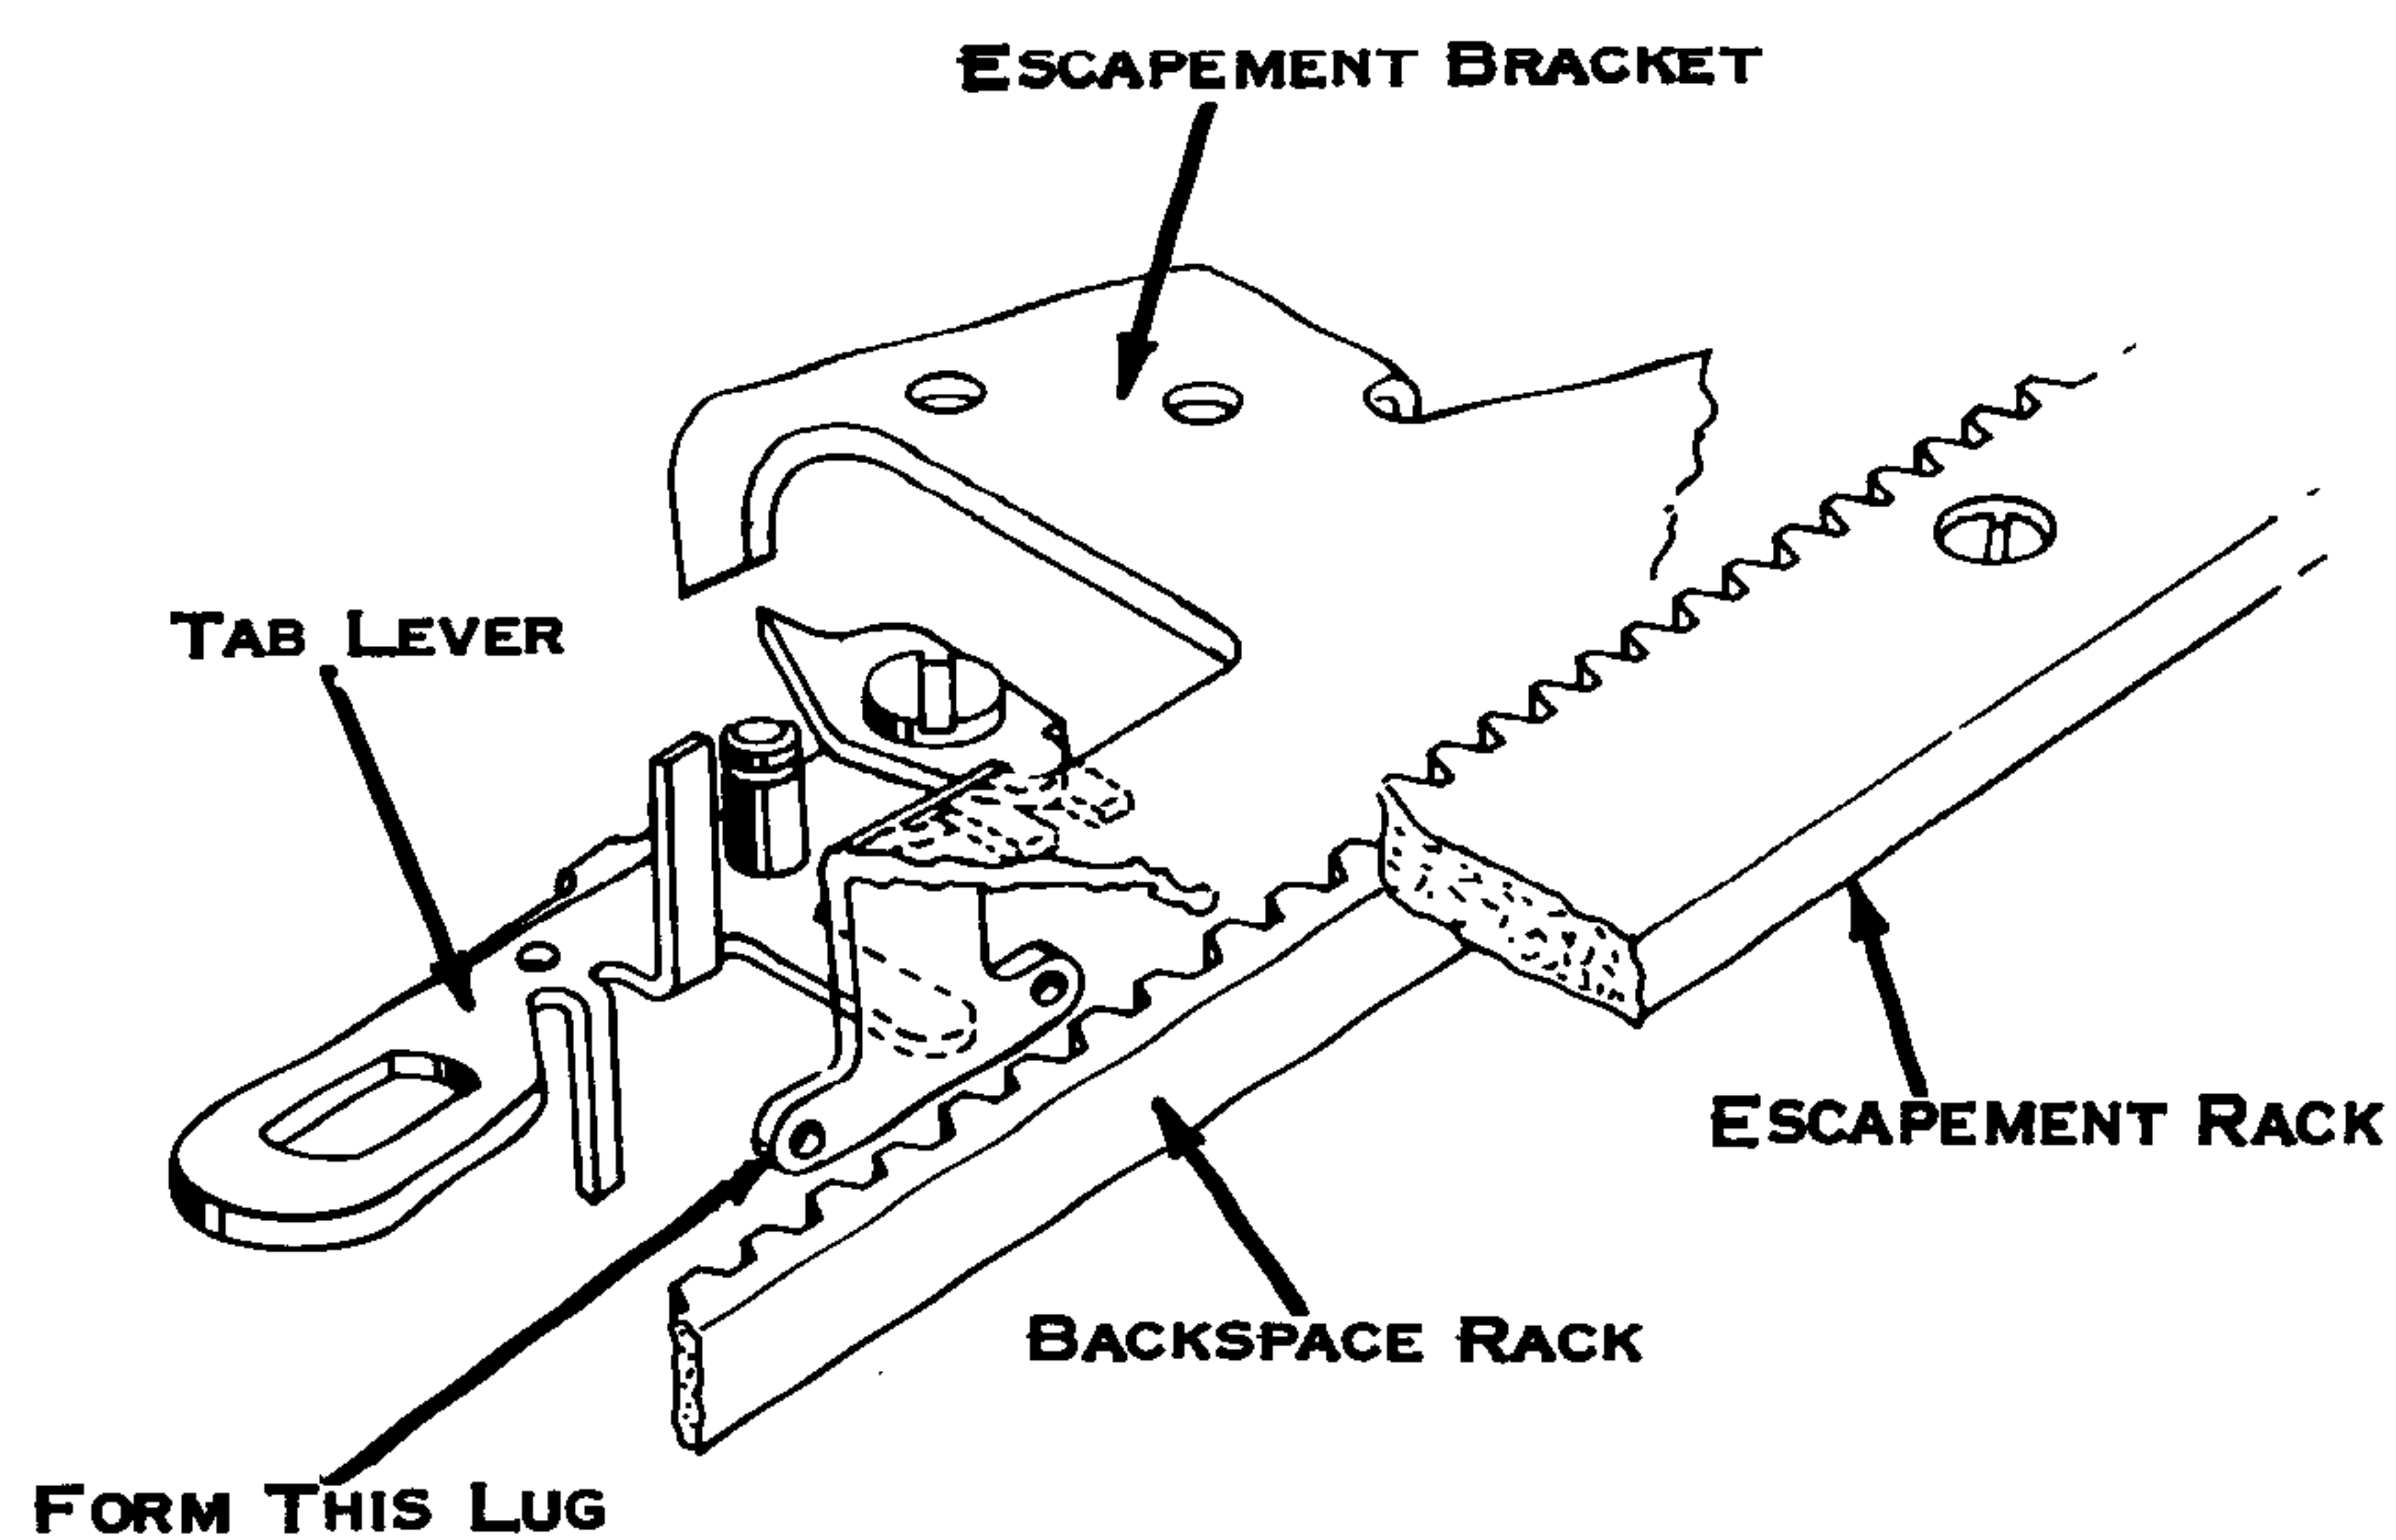

Figure 164. Tab Lever Stop
1. Tab Lever Stop (Fig. 164) - The escapement bracket lug which acts as a forward stop for the tab lever should be adjusted so that .001" to .003" clearance exists between the tab lever lug and the backspace pawl.